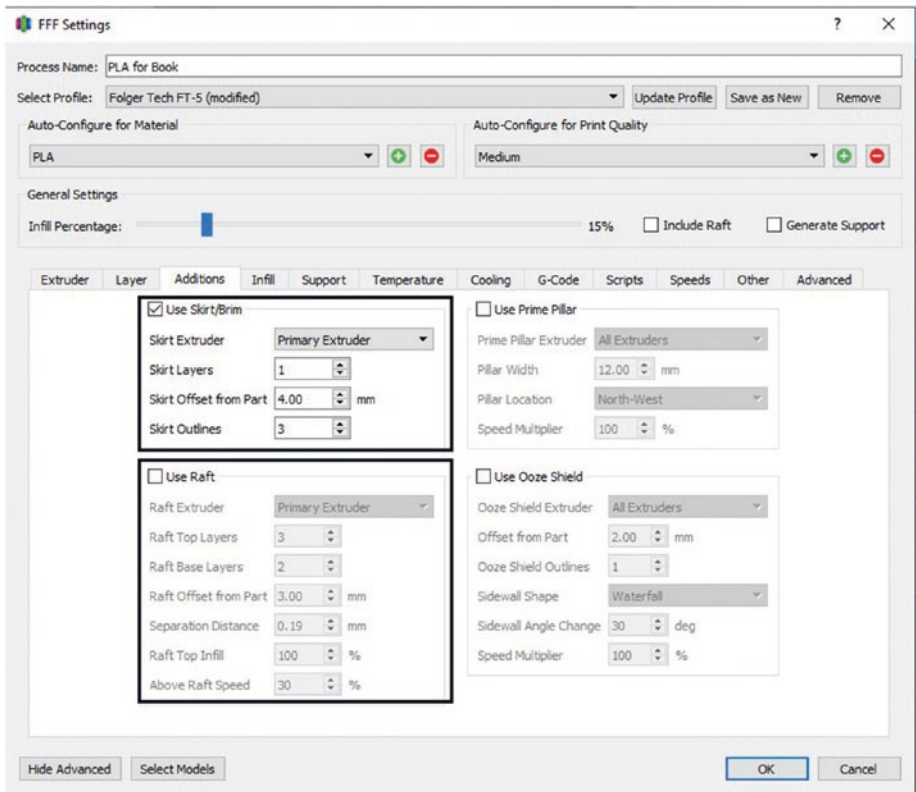

Figure 4-21. *Additions tab*
3. Tab 3: Additions (see Figure 4-21)